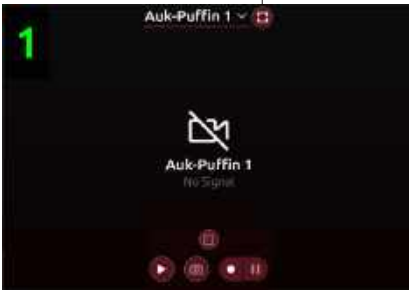

Fig 15
- 14. Swap between Full screen video view and Standard view by clicking the Full screen button at the top of the video live feed or pressing the AUX button on the controller top panel. (Fig 15)